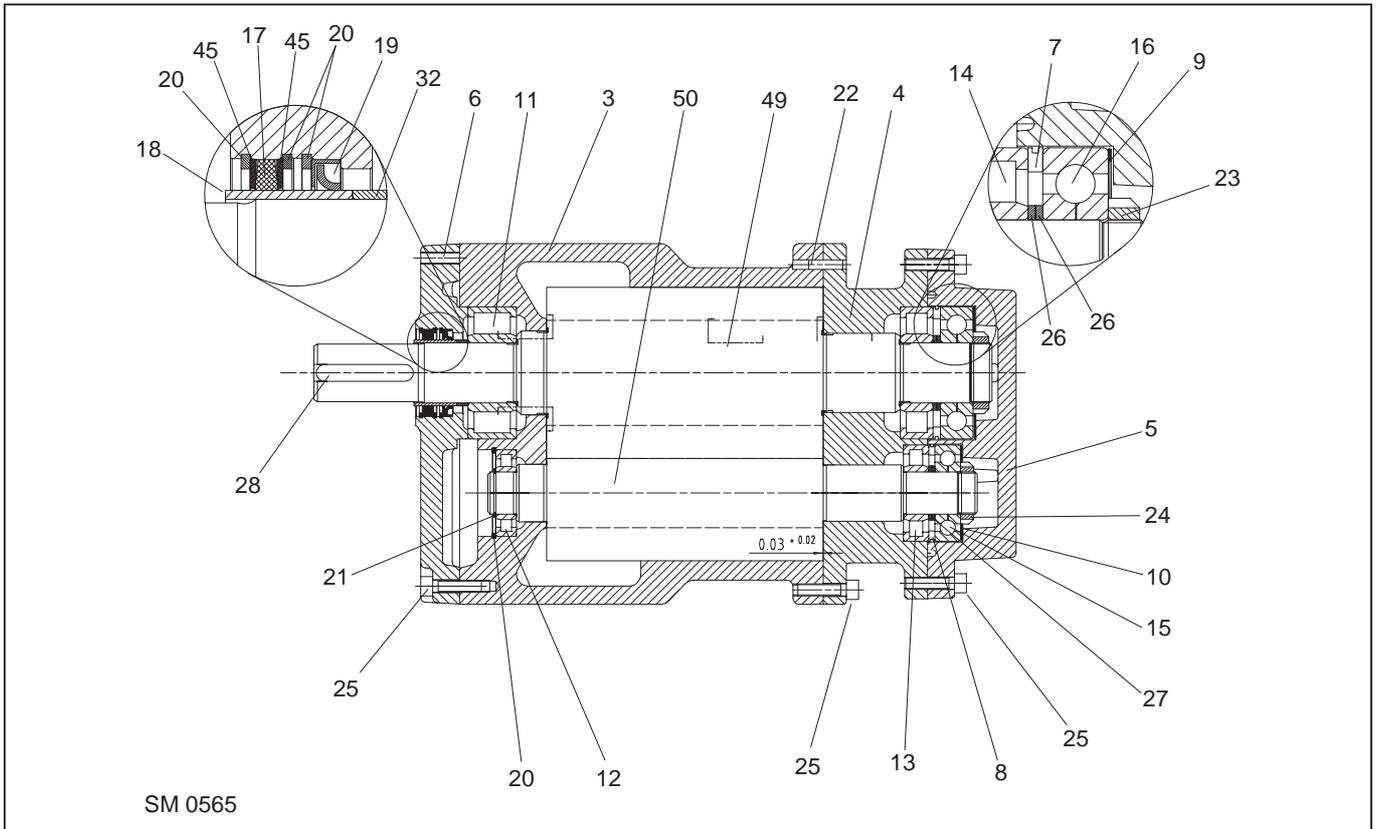

Fig 1.1 - EK 145 NK Air End - Sectional Arrangement
### Key to Figs. 1.1 and 1.2
**Note:** Annotation numbers in brackets in the following text refer to items detailed in Figs. 1.1 and 1.2